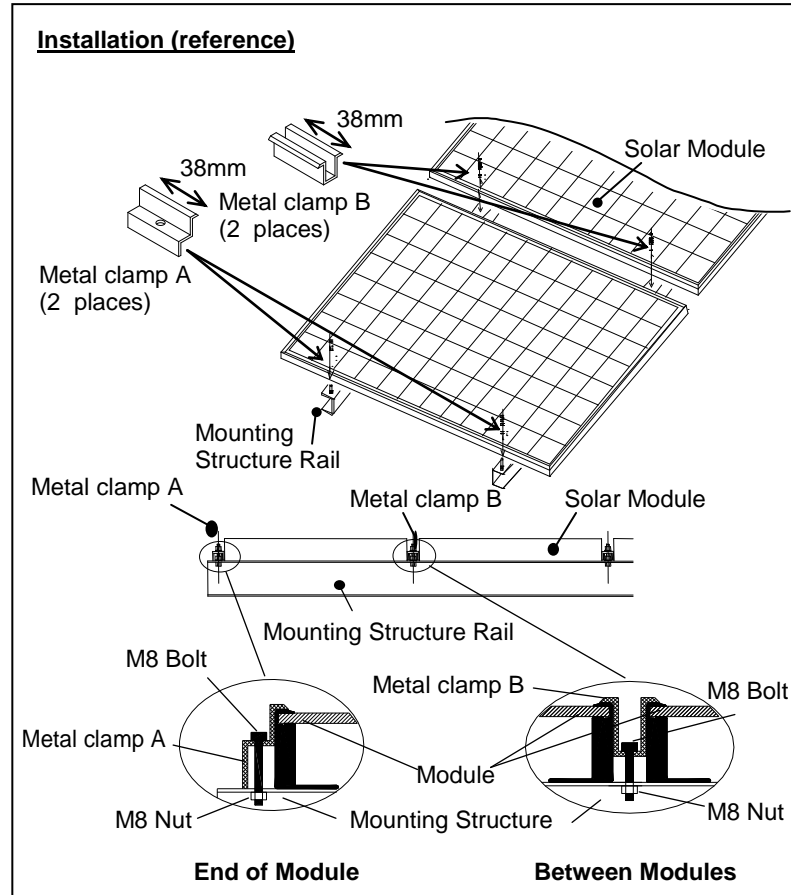

Figure 1. Installation
- SANYO recommends the installation method and mounting profile shown in Figure 1.
- Modules should be mounted at four (4) symmetrical quarter points by the means shown in Figures 1 and 2.